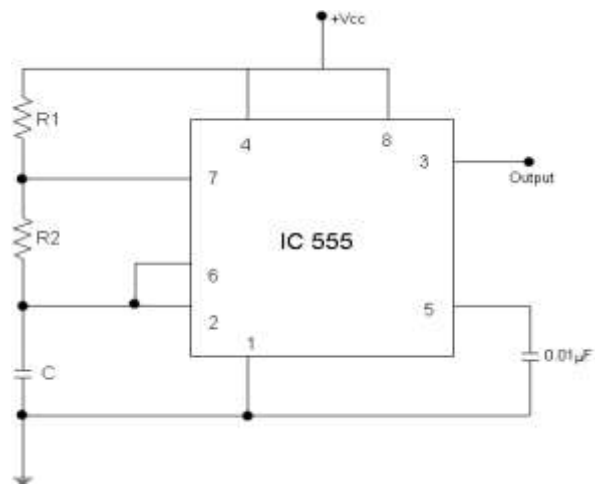

Fig. 1.19
The IC 555 can be made to work as an astable multivibrator **with the addition of three external components: two resistors (R1 and R2) and a capacitor (C)**. The schematic of the IC 555 as an astable multivibrator along with the three external components is shown fig 1.19.